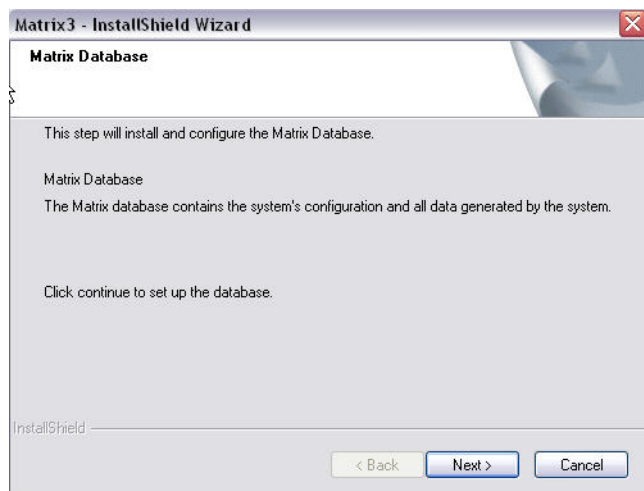

FIG. 8
9. When the Matrix Database setup screen (FIG. 8) displays, select NEXT to start the Database setup.